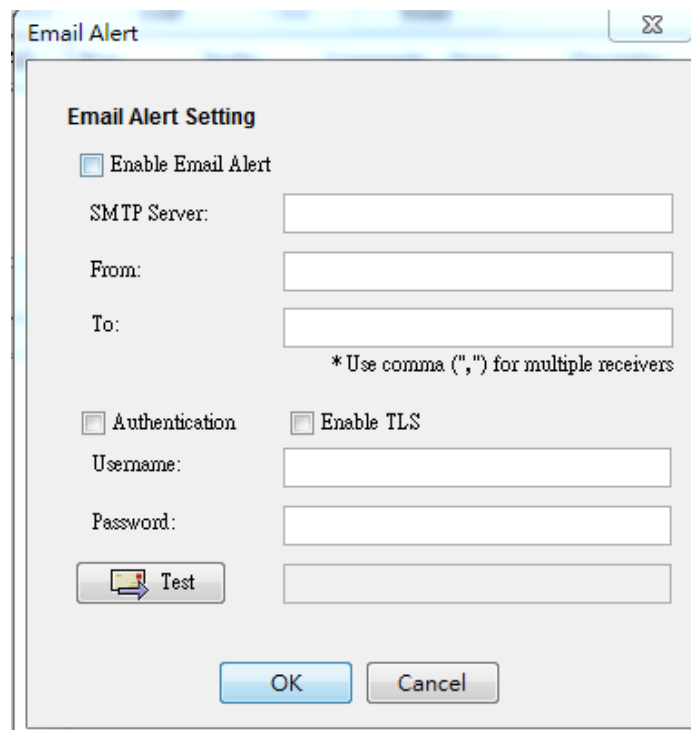

Figure 12-3
- **Email:** displays an “Email-Alert Settings” dialog box (see Figure 12-3). Fill the “SMTP server”, “From (email address)” and “To (email address)” fields. The “From” and “To” addresses must be valid in the SMTP server. If the SMTP server requires authentication, please enter the username and password. Once entering needed information, click the Test button to verify if your email works properly.